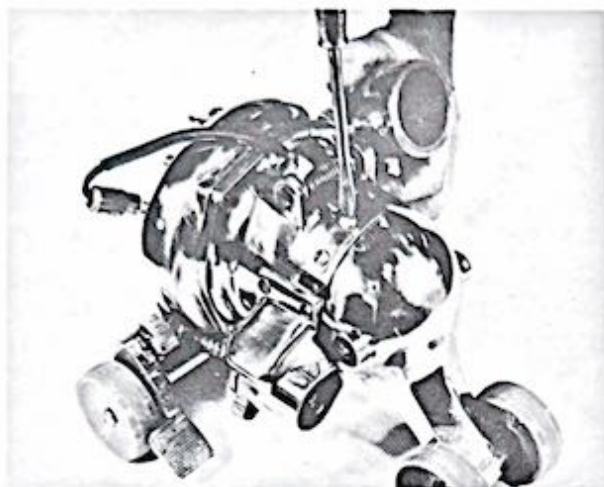

Figure 1-35. Installing handle lock
d. Position the handle lock (14), with the offset upward and toward the front as shown in figure 1-35, and the handle lock spring (13) so that they are aligned with the holes of the motor housing; secure with the two shouldered screws (12).